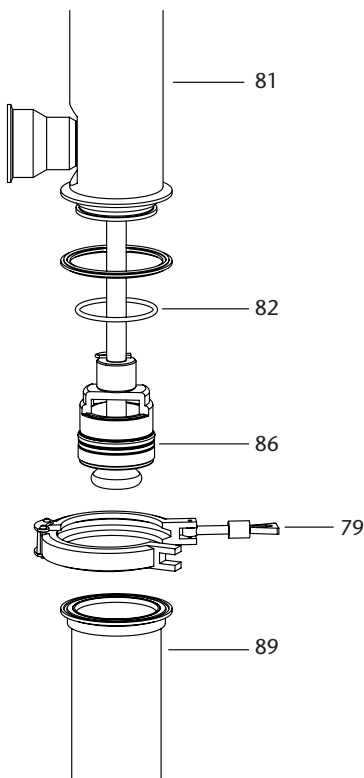
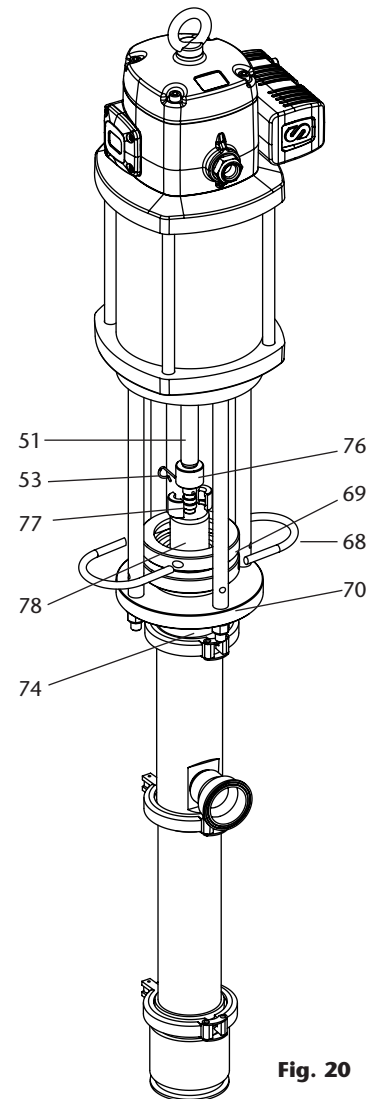

Fig. 18
Fig. 20
4. Fit the O-ring (82) and flat seal (77) onto outlet body (81). Push the piston valve (88) assembly into the cylinder (89), you can use a soft hammer to introduce gently the cylinder (89), then fit and tighten the clamp ring (79) (fig. 18).
5. Fit O-ring and valve (92) in inlet body (93). Introduce the retaining pin (90) into the cylinder (89) and place the inlet body (93) into cylinder (89). Then fit and tighten the clamp ring (78).
6. The wet part is ready to assembly into the motor. Fit carefully the gland nut (74) into the mounting flange (70). Place lock rings (69) and push the springs (68) through to fasten the assembly to pump (fig. 20).
7. The air motor piston rod (51) and the pump packing rod (81) should now be pulled together so that they touch. Fit the two couplings (80), one either side so that they fit into both the groove in the air motor piston (51) and the groove in the pump packing rod (78). Remove the spring clip (53) from the air motor piston rod (51) so that the coupling cover (76) falls down to cover the couplings (77). The spring clip (53) can now be refitted into the hole in the air motor piston rod (51) to lock the assembly in place.